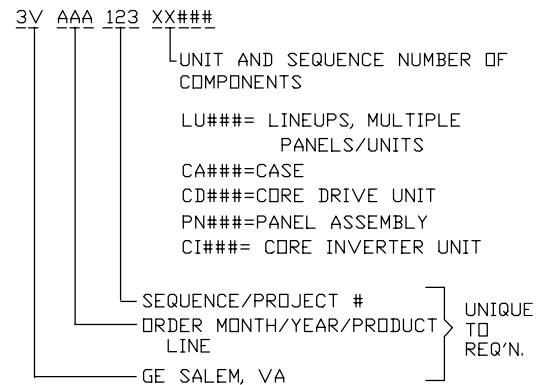

Figure A-5. Sample Drive ML (Catalog) Number
The **material list (ML) number** (also called *catalog number*) is a unique number structured to provide information about the equipment (see Figure A-5). The ML number links the equipment to its requisition, drawings, components, materials, specification item, and shipping documents.